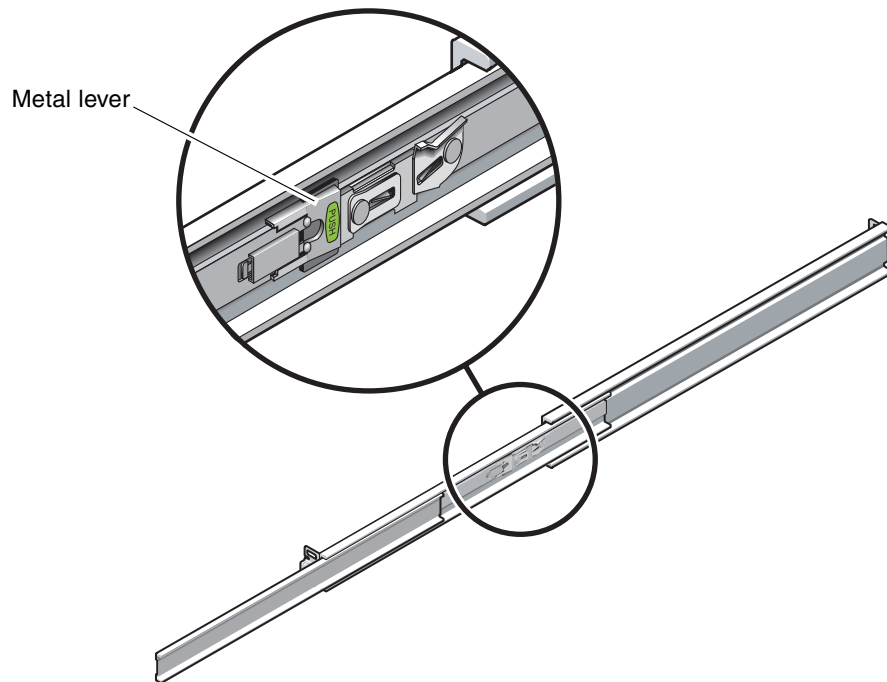

FIGURE 2-13 Unlocking the Slide Rail Middle Section
- d. Press the metal lever (labeled Push) on the middle section (FIGURE 2-13) of the sliding rail, and then push the middle section back into the rack.